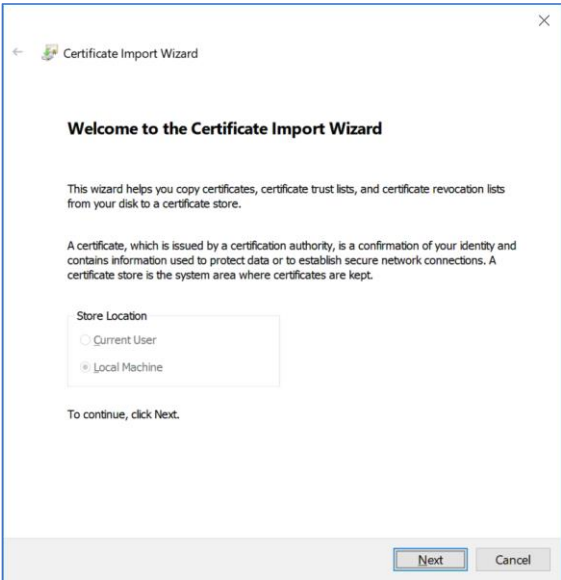

Figure 338: Windows Certificate Import Wizard
4. Click on the Import... button to start the Certificate Import Wizard. The Wizard is shown in Figure 338.